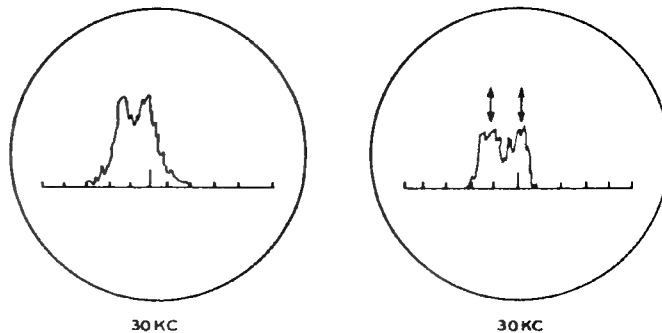

Figure 10
**Figure 10 - Interfering AM Signals:** The adjacent sidebands of two interfering AM signals will add and subtract giving the effect of a very wide AM signal with the center of the pip varying up and down. These two separate carriers may be seen if they are far enough apart in frequency.